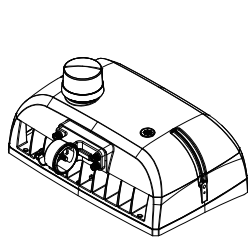

Figure 4-1
- Align the holes of the fixture and the gasket mat with those on Pole Mount Bracket A. Pass the cable through these aligned holes. Secure Pole Mount Bracket Part A to the fixture with the Pivot Bolts (Figure 4-1).